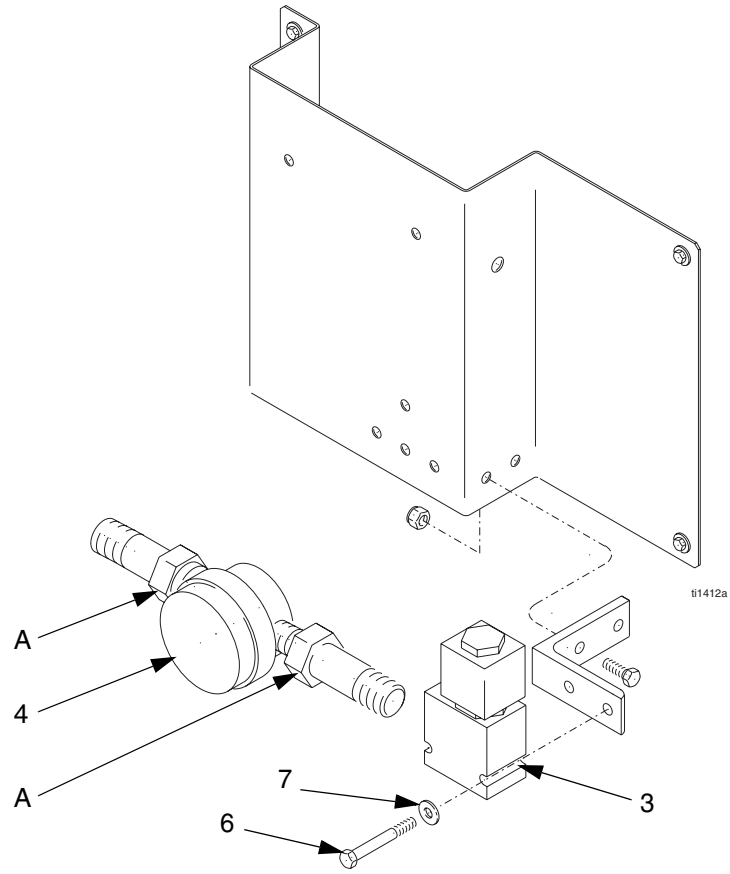

FIG. 22
4. **If replacing meter (4):**
- a. Disconnect fluid line from the meter. Loosen two nuts (A) holding the meter and remove meter. See FIG. 22.
- b. Secure new meter (4) with the nuts (A). Continue with step 6.
5. **If replacing solenoid (3):**
- b. Remove two bolts (6) and washers (7) from the solenoid (3), and remove solenoid and meter assembly. See FIG. 22.
- c. Place flats of the solenoid (3) in a vice and unscrew the meter (4).
- d. Secure new solenoid (3) to the meter with the nut (A).
- e. Secure meter and solenoid assembly to the fluid panel with solenoid washers (7) and bolts (6).